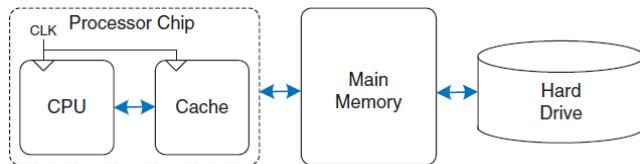
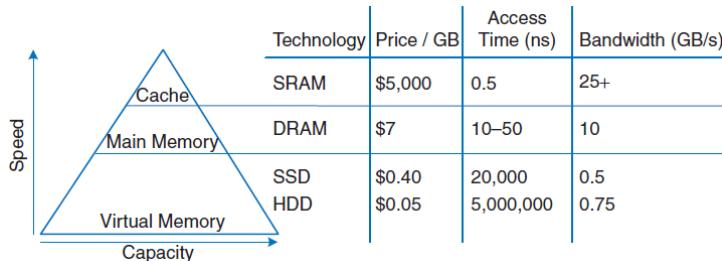

Figure 8.3 A typical memory hierarchy
Figure 8.4 Memory hierarchy components, with typical characteristics in 2015
Figure 8.3 summarizes the memory hierarchy of the **computer system**. The processor first seeks data in a small but fast cache that is usually located on the same chip. If the data is not available in the cache, the processor then looks in main memory. If the data is not there either, the processor fetches the data from virtual memory on the large but slow hard disk. Figure 8.4 illustrates this capacity and speed trade-off in the memory hierarchy and lists typical **costs**, **access times**, and **bandwidth** in 2015 technology. As access time decreases, speed increases.
**Average memory access time** (AMAT) is the average time a processor **must wait** for memory per **load** or **store** instruction. In the typical computer system from Figure 8.3, the processor first looks for the data in the cache. If the cache misses, the processor then looks in main memory. If the main memory misses, the processor accesses virtual memory on the hard disk. Thus, AMAT is calculated as: